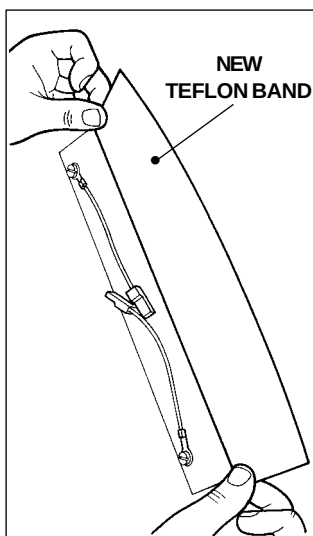
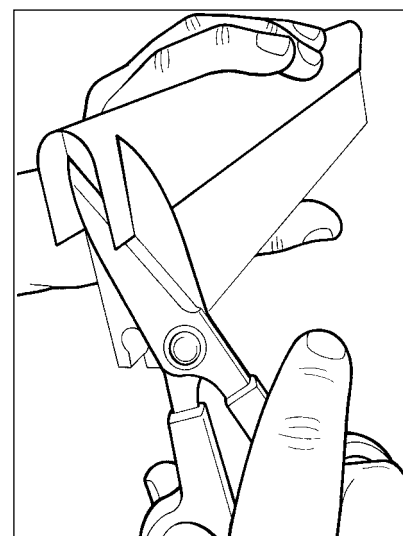

Fig. 4
Fig. 5
- 5) Insert the safety cap (C) in the central opening as shown in (Fig. 4).
- 6) Using a cloth soaked in a detergent and/or disinfectant solution, clean the bottom and sides of the vacuum chamber (Fig. 5); after cleaning, refit the parts by repeating the above operations in reverse order.
- 4) Fit a new band (Fig. 4), cutting the excess length at the two ends (Fig. 5).